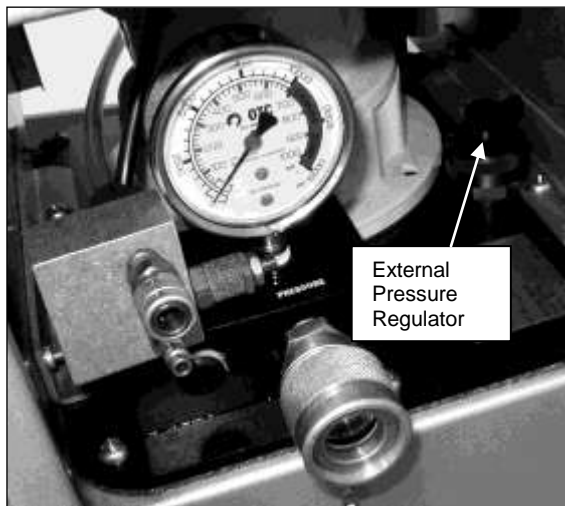

Figure 5.0-6
a) Hydraulic pressure requires adjusting. See Figure 5.0-6.
- (1) Squeeze trigger on puller unit to activate PowerPak.
- (2) If pressure does not reach 10,000 psi (68.95 MPa), loosen lock and turn hydraulic pressure control clockwise until pressure reaches 10,000 psi (68.95 MPa).
- (3) Tighten locknut to secure.